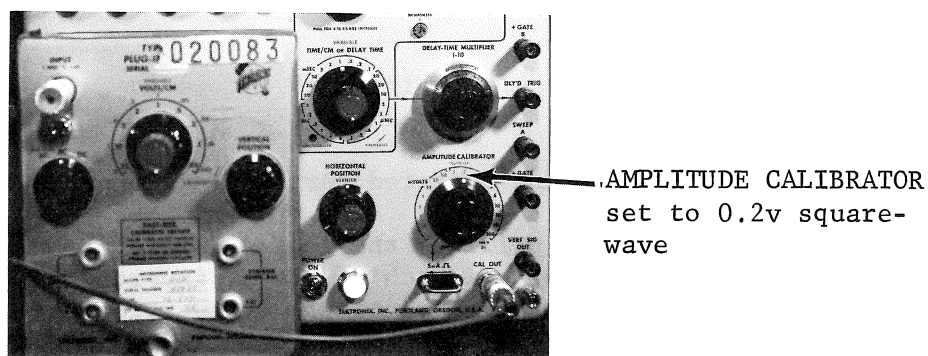

Figure 22
3. Connect a 0.2v square wave from the AMPLITUDE CALIBRATOR to the banana plug on the GAIN ADJUST ADAPTER. (See Fig. 22)